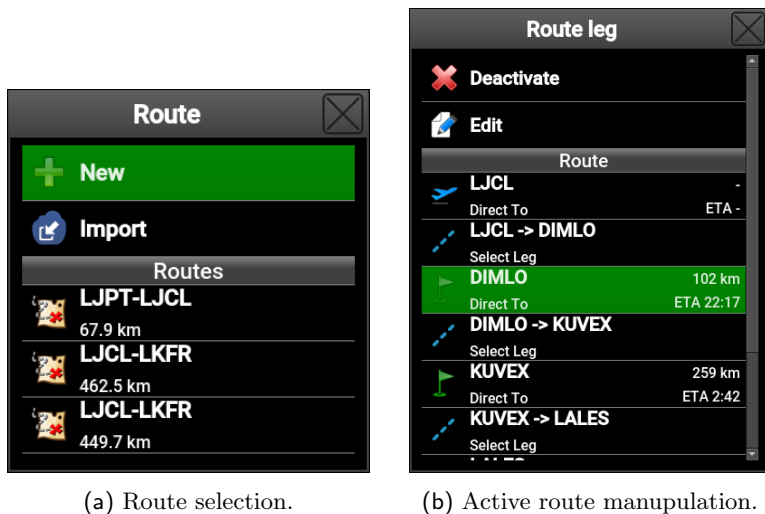

Figure 13: Route window depends on active route status.
With no active route a window opens, like shown in Figure 13 left. Routes are sorted alphabetically. Route name is typically defined by a takeoff - landing airfield pair.
When the *Route* command is issued and some route is already active, a different window appears. See Figure 13 right.
- Insert the stick into Aetos and select the **Import** command. See Figure 13 left.
- Select the *New* option from Figure 13 left.